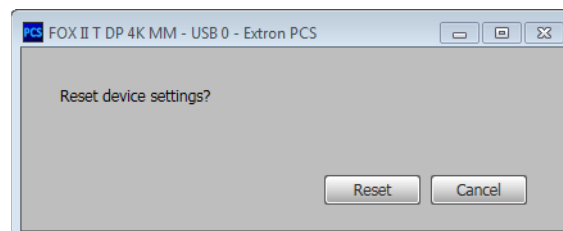

Figure 21. Reset Device Dialog Box
- **Reset Device ...** — Opens a dialog box (see figure 21) that allows you to reset the connected transmitter or receiver. Reset returns all settings to their default values.
7. On the device tab, click  > **Update firmware**. An **Update Firmware** dialog box opens, and the software asks you to confirm that you want to disconnect it from the unit (see figure 21).
8. Click **Continue** (1). The Product Configuration Software disconnects itself from the unit and calls the Firmware Loader utility in the background. The **Update Firmware** dialog box appears.